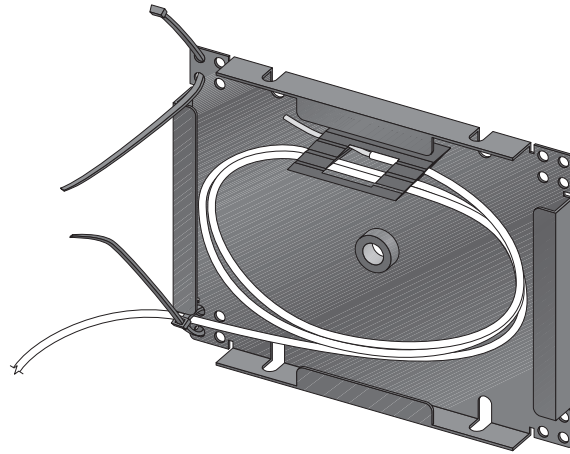

Figure 22. Setting the Fiber Cable in the Splice Tray
5. Route the fiber cable 1-1/2 times around the splice tray to the splice organizer and cut it to a length that will allow the splice to be placed in the organizer, as shown in Figure 22.